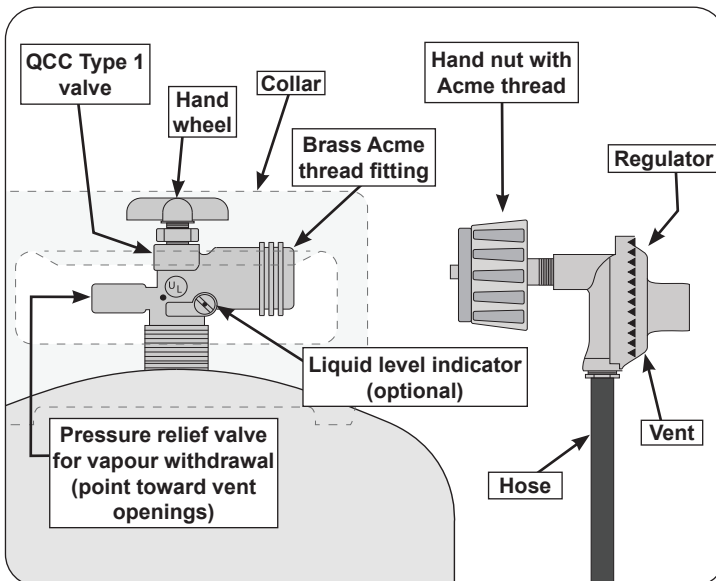

Fig. 7-1 Type I Acme thread coupler
- The cylinder used must include a collar to protect the cylinder valve. The cylinder supply system must be arranged for vapour withdrawal. See Fig. 7-1.
- When used with a cylinder, the gas supply system must be used with a pressure regulator. The pressure regulator and hose assembly (Fig. 7-1) **supplied with this outdoor gas appliance** (L.P. models only) must be used. Original and replacement pressure regulator and hose assemblies must be those specified by the manufacturer for connection with a cylinder connecting device identified as Type I by the ANSI Z 21.58/CGA 1.6 and must comply with UL 144 as a part of the self-contained LP gas supply system (see PARTS LIST for ordering information).
**To disconnect:** Turn the hand nut counterclockwise until detached (Fig. 7-1).